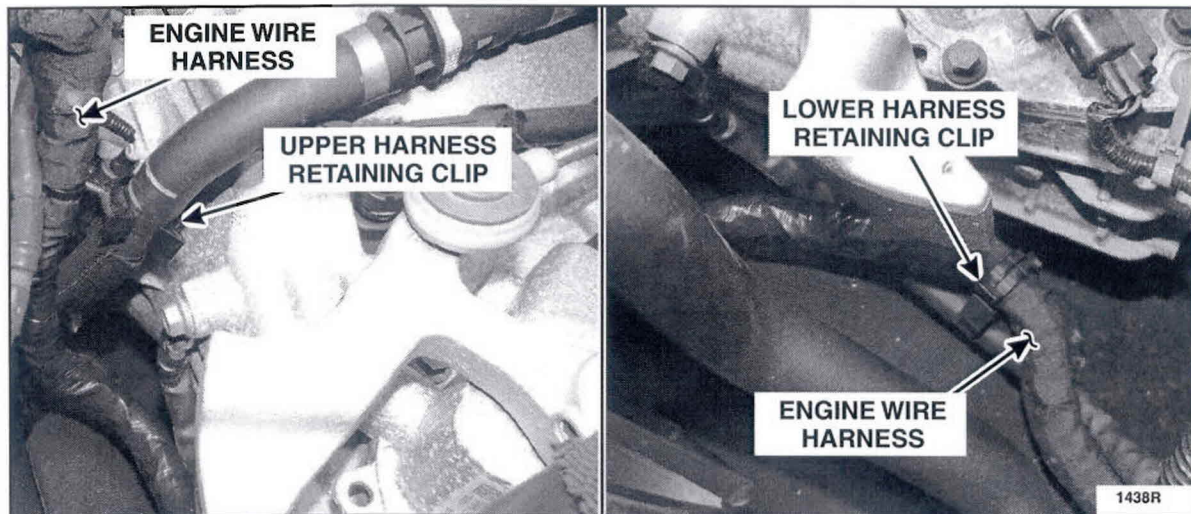

FIGURE 3
6. Detach the retaining clips from the lower radiator hose and engine wire harness. See Figure 3.